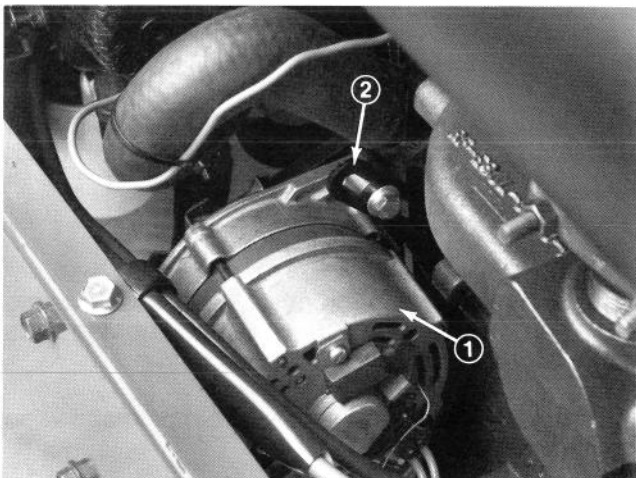

Figure 38
A new alternator belt (Fig. 38) is to be tensioned to 65 lb. A used belt is to be retensioned to 40 lbs.
1. To adjust belt tension, loosen bolt securing brace to engine, bolt securing alternator to brace and alternator mounting bolts (Fig. 38).